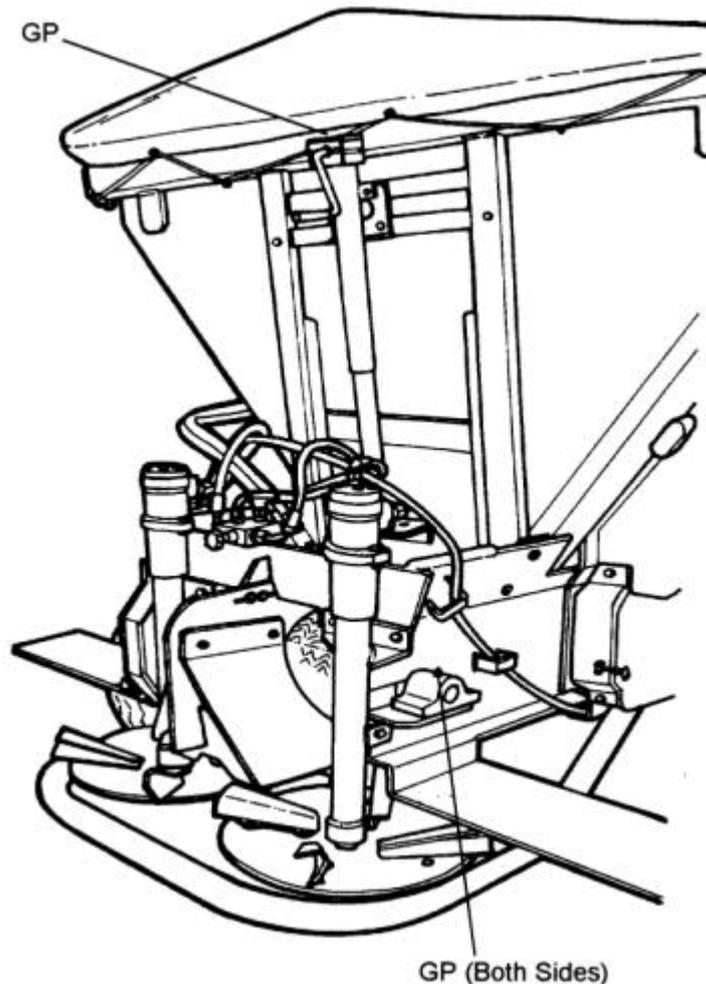

Figure 10 – Grease Points
- Check the machine has been greased. Refer to Fig 10 and 11 for the position of the grease points.